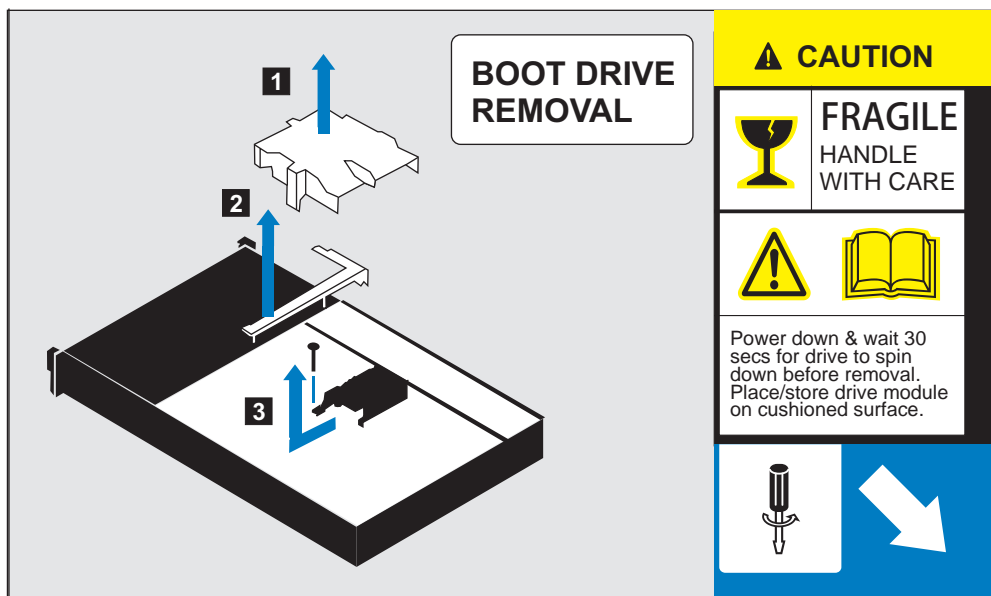

Figure 29. Boot cage label
10. Refer to Figure 29. Remove the **1** baffle and then the **2** L-shaped plastic covers.
- a. There are two boot drive cages, one in the defective chassis and one in the replacement chassis. Do this for both boot cage drives. Refer to Figure 29 on page 50. The caution label also show the three mounting points holding the boot drive cage in place. These have rubber shock absorbers around them. With a phillips head screwdriver, **2** remove the single upright screw holding the boot drive cage down. To remove the retention screw, you may need pliers to hold the post stationary while removing the screw.
17. Refer to Figure 29 on page 50. Put the **2** L-shaped and the **1** baffle plastic covers back on.